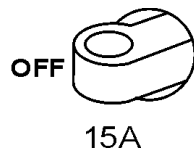

Figure 10. GFCI Circuit Breaker (OFF)
3. **NEVER** start the engine with the GFCI circuit breaker in the **ON** position. Always place GFCI circuit breaker (Figure 10) in the **OFF** position before starting.